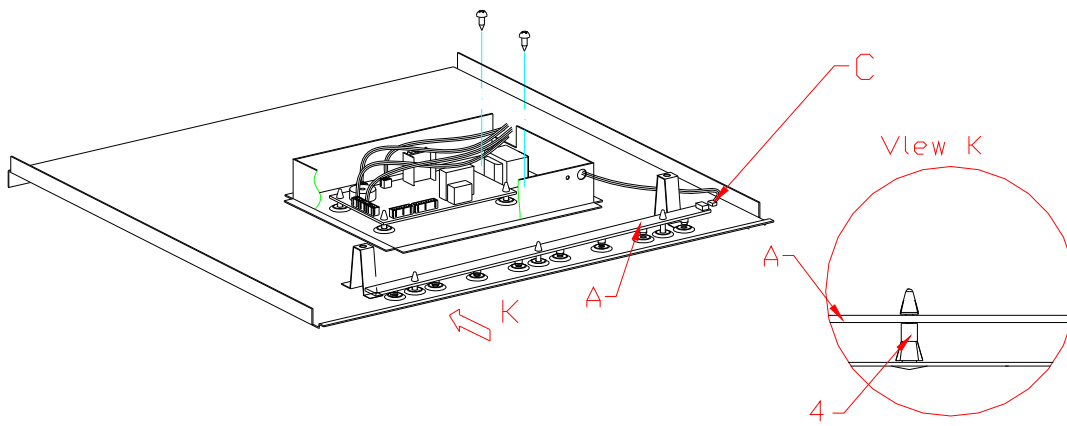

Fig. 17
3. How to replace normal dual temperature wine cellar's lower LED light (Fig.17)
3>. Unplug connector (C), press the head of each of the three plastic screws (4), move up-ward the LED light, then replace a new one ( Fig.17)